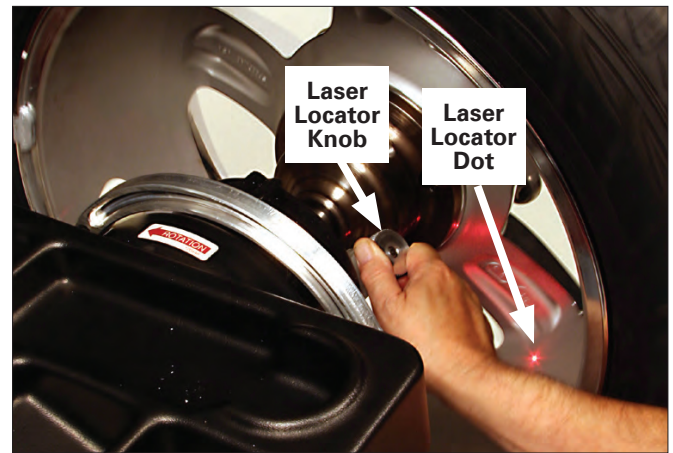
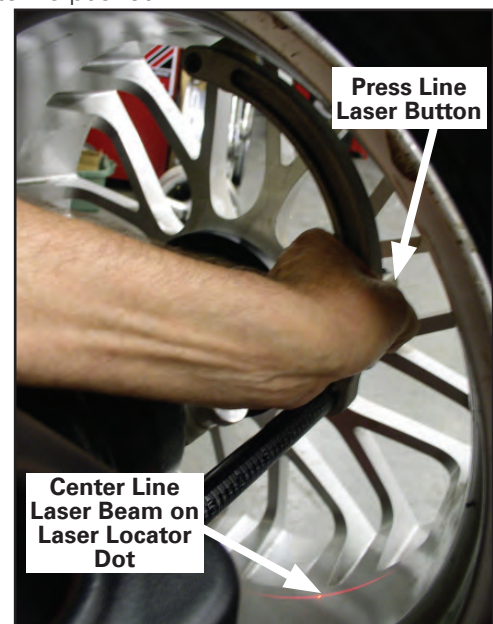

Figure 10 - Positioning Laser Dot At T2 Tape Hidden Weight Location (A2)
Figure 11 - Positioning Line Laser Beam At T2 Tape Hidden Weight Location (A2)
If the T2 Tape (hidden Tape-A-Weight®) location is selected, use the laser locator to point to the hidden weight location (figures 10 & 9B). Rotate laser locator knob to position the laser dot outboard at the desired T2 Tape (hidden Tape-A-Weight®) location.
If the T2 Tape (hidden Tape-A-Weight®) location is selected, use the line laser to align the offset arm with the laser locator dot (figures 10 & 9B); entering A2 & D2 measurements automatically. Grasp arm at the line laser and pull out and up to the wheel flange (figure 8B). Hold arm still at the clip-on weight location and wait for BEEP. Then, before returning arm to home position, press button on line laser to activate the line laser beam. Move arm to inner area of wheel and align line laser beam with laser locator dot (figure 10). Hold arm still, up against the rim, in the same plane as the T2 Tape (hidden Tape-A-Weight®) location (figure 9A & 9B) and wait for BEEP. Refer to figure 11.
**3.** Rotate the laser locator knob to position the laser locator dot at the desired weight location. See figures 10 & 9B.